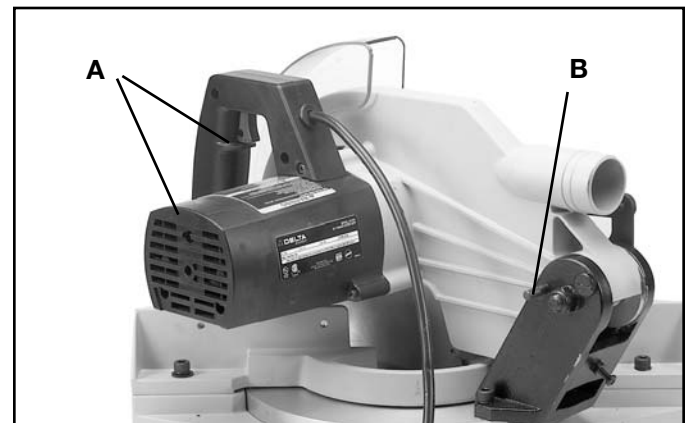

Fig. 16
When transporting the miter saw, the cuttinghead should always be locked in the down position. This can be accomplished by lowering the cuttinghead (A) Fig. 16, and pushing pin (B) until other end of pin (B) engages with hole in cutting arm. **IMPORTANT: NEVER CARRY THE MITER SAW BY THE SWITCH HANDLE OR TABLE CONTROL HANDLE AS THIS MAY CAUSE MISALIGNMENT. ALWAYS LIFT THE MACHINE BY THE BASE OR CARRYING HANDLE.**